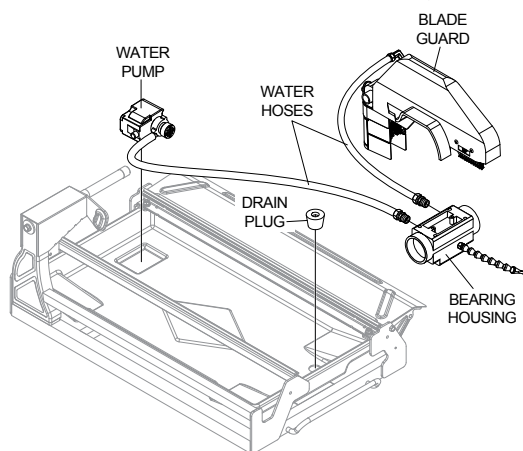

Figure 5. Water Pump and Water Tray
2. Place the pump onto the recessed area of the water tray. The pump should be oriented such that the water outlet is horizontal. See Figure 5.